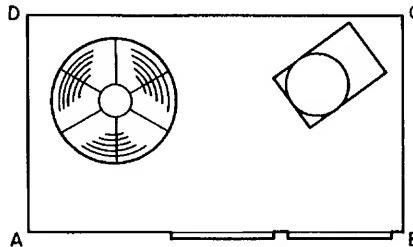
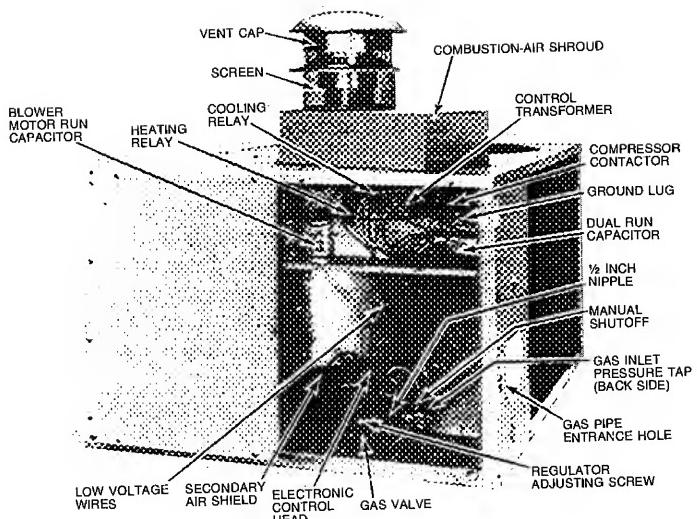

Fig. 4—Dimensions and Clearances (ft-in.)
Fig. 6—Model 48KLA136—Side View (Partial) with Access Doors Removed
4. Refer to Fig. 4 for locations of gas inlet, electrical inlets, condensate drain, duct connections, and required clearances before setting unit in place.
When installing a unit on a rooftop, be sure roof will support the additional weight. Refer to Fig. 4 to obtain total weight and corner weight information.
CLEARANCES—Required minimum operating and service clearances are shown in Fig. 4 for providing adequate combustion, ventilation and condenser air.
Models 48KHA, KLA dispose of condensate water through a $\frac{3}{4}$ -in. MPT drain fitting. See Fig. 4 for location.
VENTING—The vent cap, combustion air shroud and flue assembly are shipped in either the blower or control compartment. Vent screen is taped to blower housing. Remove access doors to locate assemblies. See Fig. 4 for door locations.
Step 2—Make Gas Piping Connections—A manual shutoff valve is shipped loose in the burner compartment or blower compartment. Connect one end of a field-supplied $\frac{1}{2}$ -in. straight nipple to the gas valve inlet. Connect the other end of the nipple to the manual shutoff valve as shown in Fig. 6. The gas supply pipe enters unit through access hole provided. See Fig. 4 for location. The gas connection to unit is made to the $\frac{1}{2}$ -in. FPT gas inlet on manual shutoff. See Fig. 6 for inlet location.
Step 3—Make Duct Connections—Model 48KHA,KLA has duct flanges on the supply- and return-air openings on side of unit. See Fig. 4 for connection sizes and locations.
The field-supplied disconnect switch box may be mounted on unit over the high-voltage inlet hole in control corner panel. See Fig. 4.
2. Run high-voltage leads into unit control box and connect to contactor. See unit wiring label and Fig. 6 and 8.
For operation on 208 volts, disconnect orange transformer-primary lead from contactor. See unit wiring label and Fig. 6. Remove tape and cover from terminal on end of red transformer-primary lead. Save cover. Connect red lead to contactor terminal from which orange lead was disconnected.
A grommeted, low-voltage inlet hole is located in the panel adjacent to control access panel. See Fig. 4. Run low-voltage leads from thermostat, through inlet hole and to low-voltage flagged pigtail leads that run through a hole in bottom of unit control box. See Fig. 6. Connect thermostat leads to pigtail leads as shown in Fig. 8.